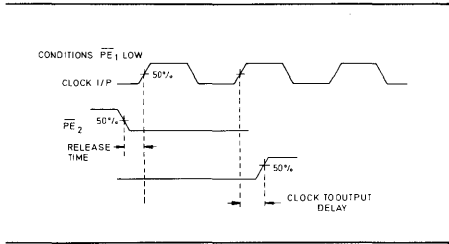

Fig. 4 Release timing diagram
- Release time is defined as the minimum time that can elapse between a H → L transition of a control input and the next L → H clock pulse transition to ensure that the -4 mode is forced by that clock pulse (see Fig. 4).